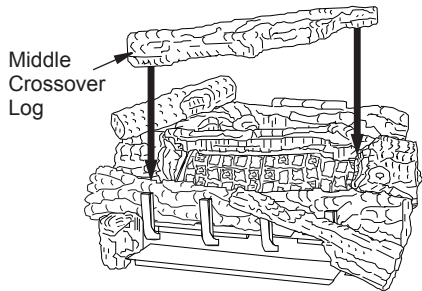

Figure 37 - Installing Middle Crossover Log
10. Rest the middle crossover log onto the right middle log and the left front log (see Figure 37). Make sure to match the projection on the bottom of the crossover log with the recess area in the right middle log and the left front log.